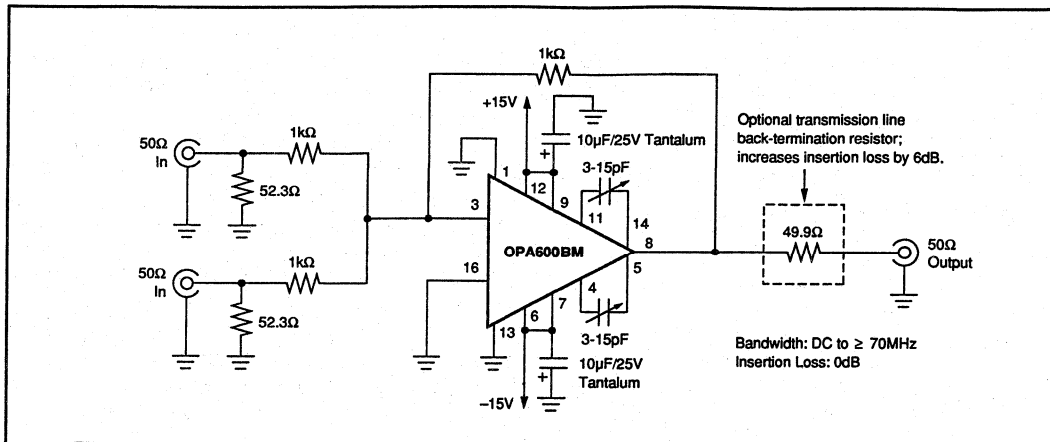
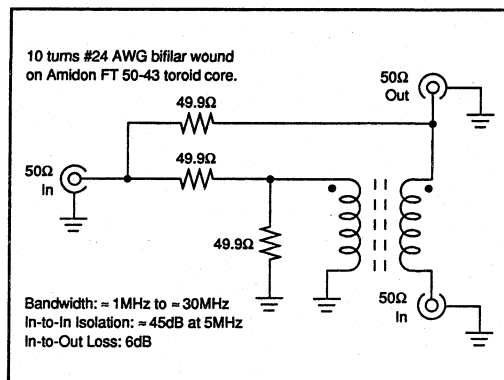

FIGURE 5. Active Signal Combiner.
FIGURE 6. Passive Signal Combiner.
7. Two-tone testing will require isolation between test signal generators to prevent IMD generation in the test generator output circuits. An active summing amplifier using an OPA600 is shown in Figure 5. This circuit will provide excellent performance from DC to 5MHz with harmonic and intermodulation distortion products typically better than -70dBc. A passive (hybrid transformer) signal combiner can also be used (Figure 6) over a range of about 0.1MHz to 30MHz. This combiner's port-to-port isolation will be ≈45dB between signal generators and its input-output insertion loss will be ≈6dB. Distortion will be better than -85dBc for the powdered-iron core specified. Avoid ferrites.